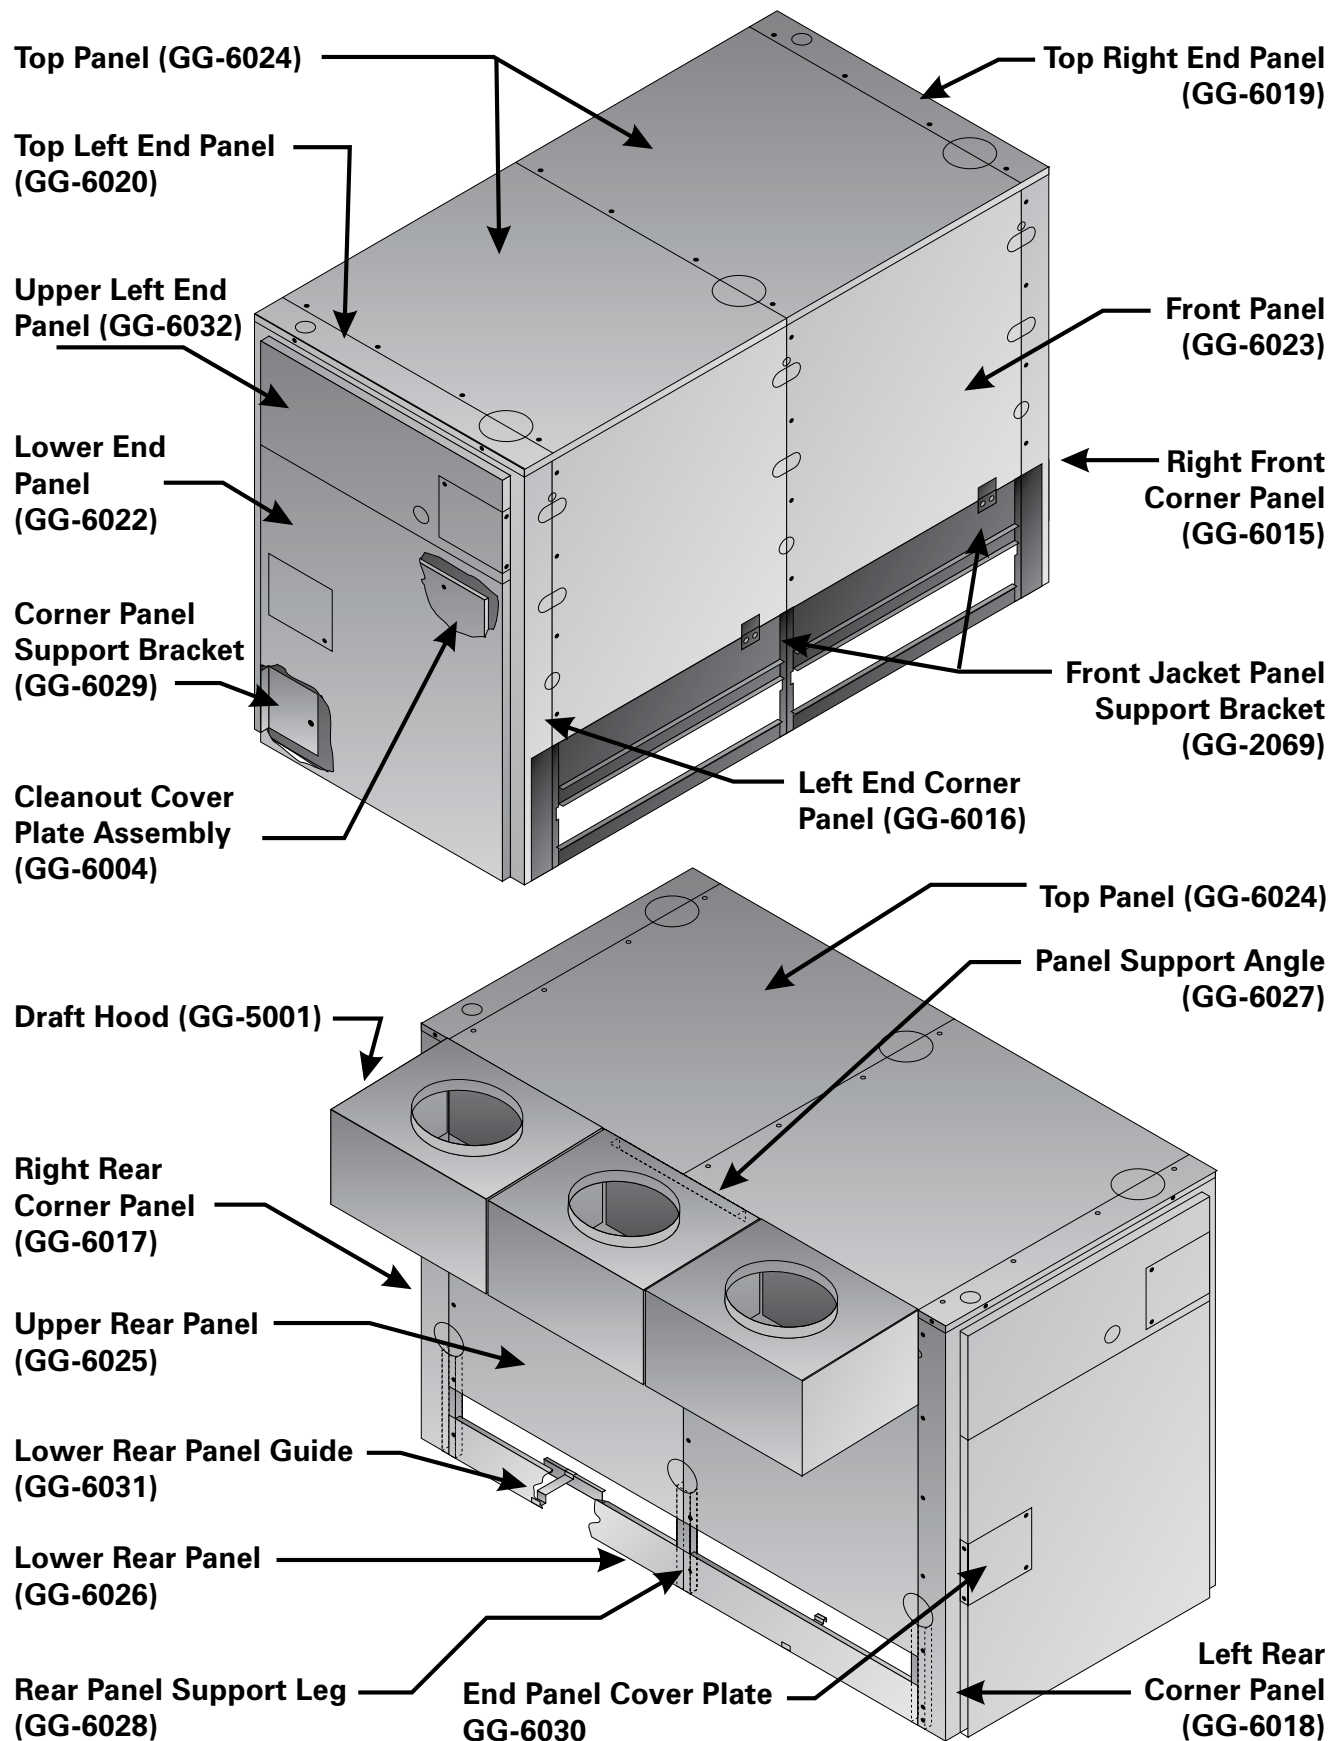

Figure 6.2: Jacket Assembly
2. See Figure 6.2 for the Jacket Assembly. Use these drawings for part identification and location.
7. Attach the Lower Rear Panel Guide (GG-6031) to the Rear Base Panel as shown in Figure 6.2.
- Make sure to slip the Front Panels into the Front Panel Support Brackets (mounted on the base). See Figure 6.2.
- Install a Panel Support Angle on the inside top of the Upper Rear Panel (See Figure 6.2). Use #10 x 1/2" (13 mm) long sheet metal screws.
**Table 6.1: Jacket and Draft Hood Carton Contents – See Figure 6.2 for Placement of Jacket Sections**